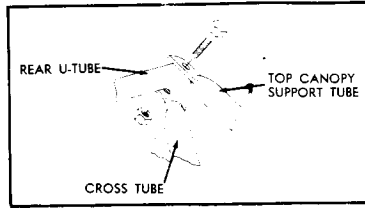

FIGURE 9
13. Assemble the rear of the top canopy support tubes (52) to the outside and the cross tubes (56) to the inside of the top rear U-Tube (55) using $\frac{5}{16}$ -18 Bolt and nut as shown in Figure 9.
14. Insert Upright Braces (54) into Hose Adapter Assembly Tube (53) and Top Rear U-Tube (55).